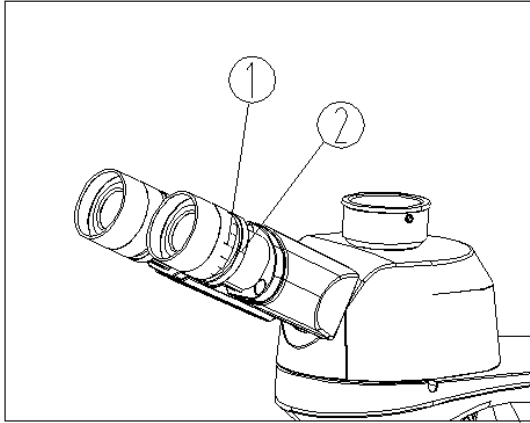

Fig. 7
Set the left diopter collar scale ① to "0" (Fig. 7).